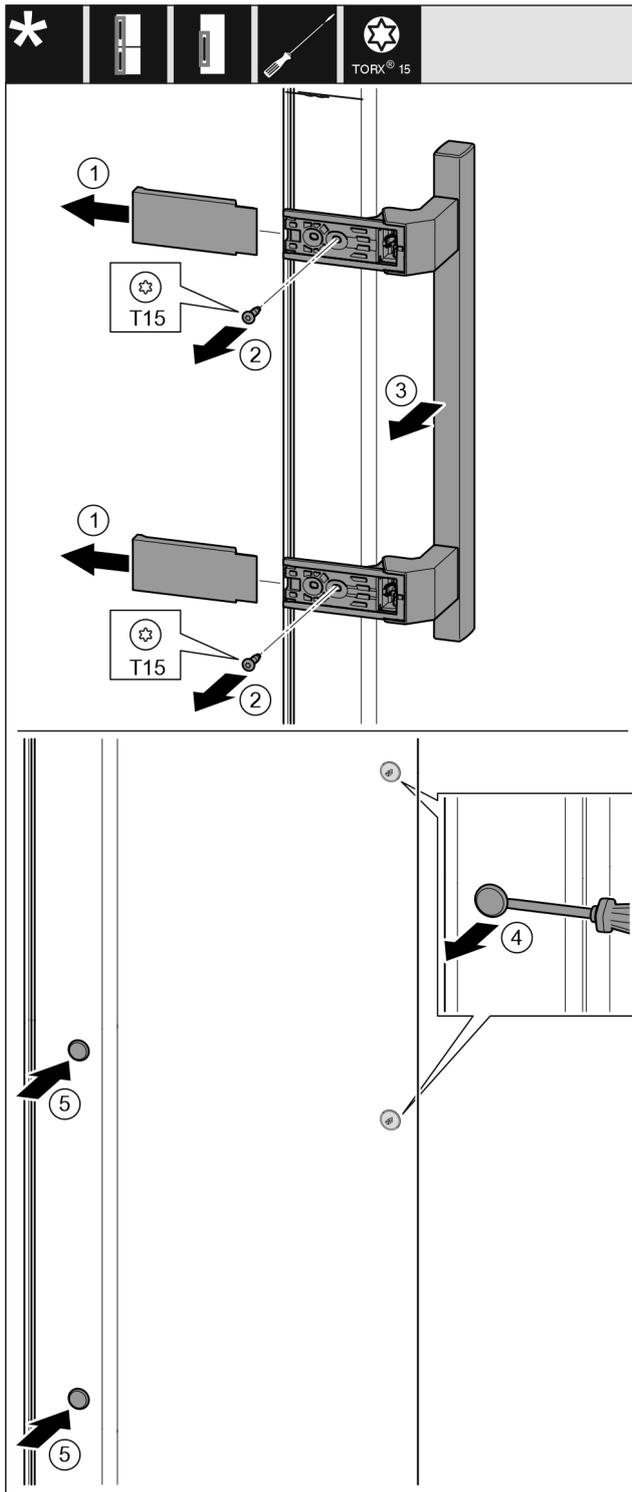

Fig. 22
- ▶ Pull off the cover. Fig. 22 (1)
- ▶ Remove the screws with a T15 screwdriver. Fig. 22 (2)
- ▶ Take off the handle. Fig. 22 (3)
- ▶ Carefully lift up the side plugs with a slotted screwdriver and pull them out. Fig. 22 (4)
- ▶ Insert the plugs again on the other side. Fig. 22 (5)